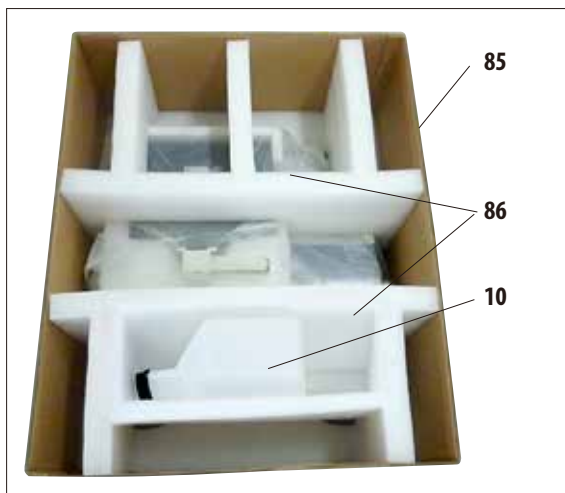

Fig. 6
- First, remove the additional RTU-bottle (10) out of the transport anchor.
- Take out the two transport anchors (86) made of foam (Fig. 6).
- Afterwards, the outer sleeve of the packaging (85) must be removed from the pallet (87) by pulling it upwards.